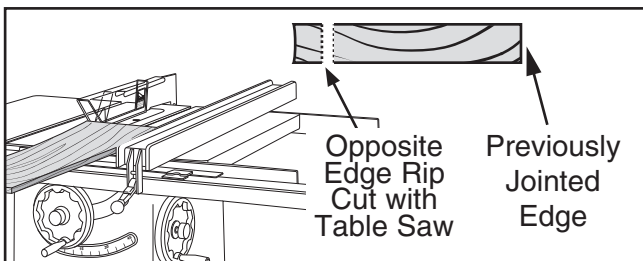

Figure 24. Rip cutting on a table saw.
2. Place the jointed edge of the 2x4 against the table saw fence and rip cut just enough off the opposite side to square up the two edges of the 2x4, as shown in **Figure 24**.